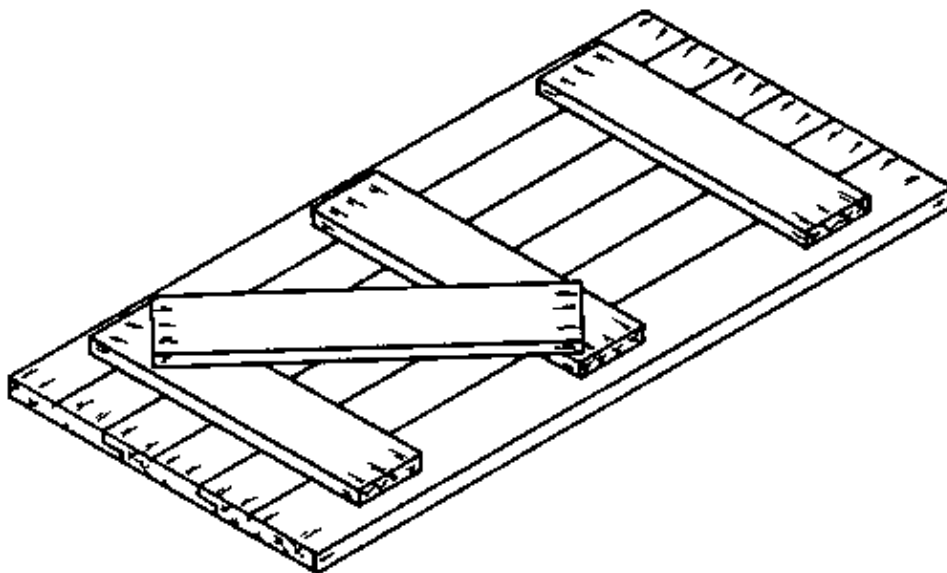

Fig. 1 (m)
m. Place the braces on top of the ledges (Fig. 1).